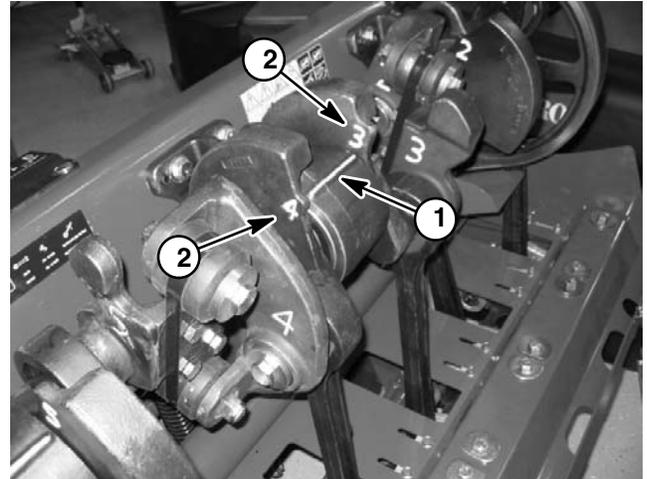

Figure 9
- A. Remove cap screw (item 1) and flat washer (item 2) that fasten crankarms together. Take note of alignment of identification number on crankarm with timing mark on bearing housing (Fig. 9).
3. Install crankarms into bearing housing. Make sure that correct identification number on crankarm is aligned with timing mark on bearing housing (Fig. 9).
4. Install cap screw (item 1) and flat washer (item 2) to retain crankarms. Do not fully tighten cap screw.
6. Position bearing housing assembly to coring head frame and secure with four (4) cap screws, eight (8) hardened washers and four (4) lock nuts. Torque fasteners from 70 to 80 ft-lb (95 to 108 N-m).